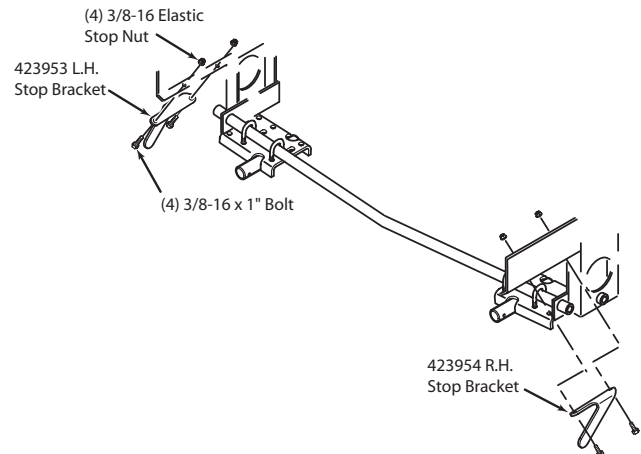

FIGURE 3-2
- Install the left and right hand Striper Stop Brackets (p/n 423953 & p/n 423954) to the frame and secure with (4) 3/8-16 x 1" bolts and (4) elastic stop nuts. See Figure 3-2.